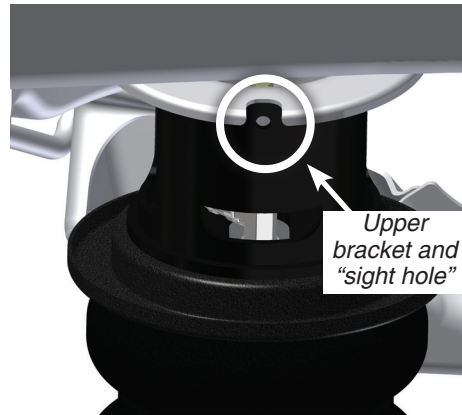

fig. 15
- Center the assembly over the upper spring perch, with the upper bracket "sight hole" aligned with the notch in the upper spring seat (fig. 15). Thread the upper bracket bolt into the nut plate, torque to 27 Nm (20 ft-lbs.)